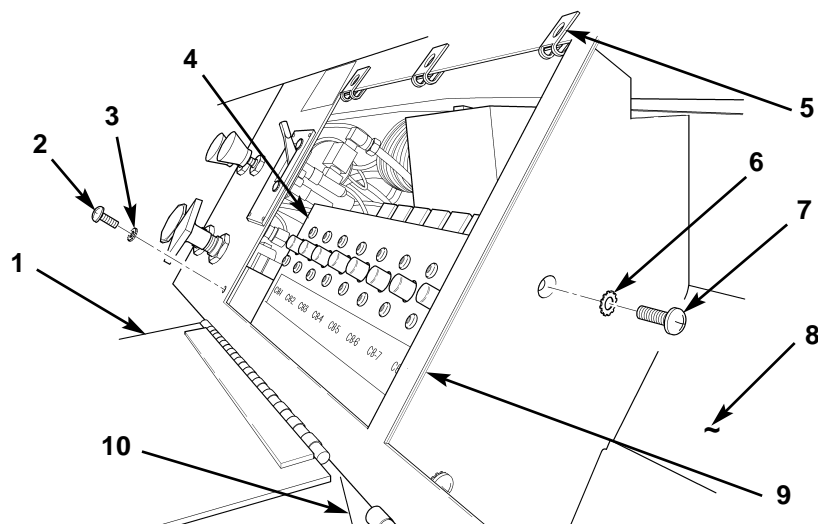

Figure 10. Installing Circuit Breaker Panel.
4. Position circuit breaker panel (figure 10, item 4) in place on dash panel (figure 10, item 9), and install star washer (figure 10, item 3) and screw (figure 10, item 2) on dash panel (figure 10, item 9) and circuit breaker panel (figure 10, item 4).
5. From glove compartment (figure 10, item 8), install two star washers (figure 10, item 6) and screws (figure 10, item 7) on dash panel (figure 10, item 9) and circuit breaker panel (figure 10, item 4). Close and secure glove compartment door (figure 10, item 10).
6. Close circuit breaker cover (figure 10, item 1) and turn three turnlock fasteners (figure 10, item 5) 90 degrees.